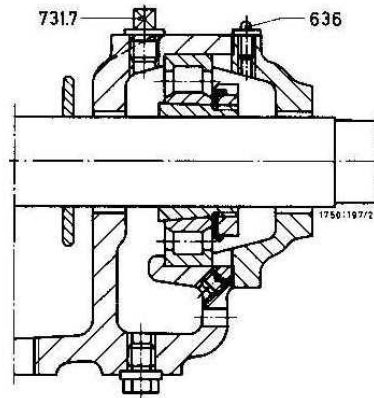

Fig. 10 - Grease-lubrication bearing construction
See Fig. 10 "Bearing and oil requirement table" for precise bearing designation and size for the individual pump sizes. Thrower (507) on shaft (210) prevent the penetration of any leakage liquid from the stuffing box into the bearing housings.
Portable (mobile) pumps, and installed on board ship have grease-lubricated bearings (see Fig. 10). Use a good quality lithium soap ball and roller bearing grease, free of resin and acid, and possessing rust preventive properties. The grease should have a penetration number situated between 2 and 3, corresponding to a worked penetration situated between 220 and 295 mm/10.